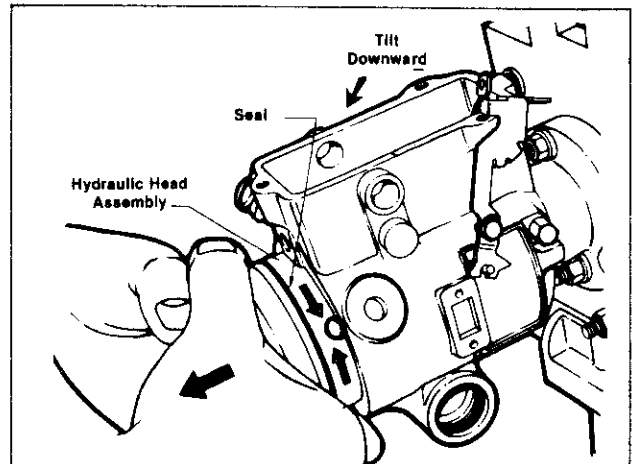

FIGURE 3.19a
STEP 19 Return the pump and holding fixture as a unit to its initial position in the vise with the rear of the hydraulic head tilted slightly downward. Remove the remaining head locking screw and remove the hydraulic head assembly by grasping with both hands and withdrawing with a slight rotary motion (Figures 3.19a and 3.19b).